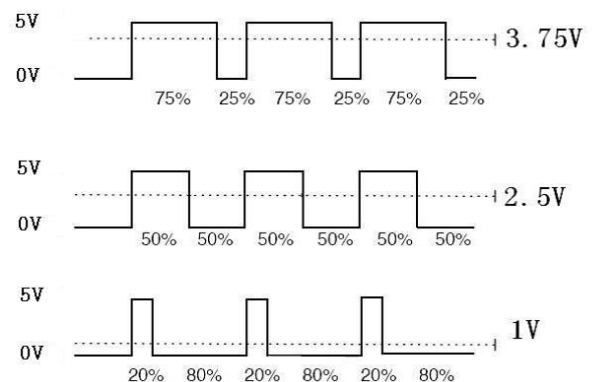

Figure 2: Duty Cycles and average value
- The 'duty cycle' describes the ratio of time the signal spends high (mark) and low (space) which creates an average constant value which lies within this range (figure 2).
- Signal time period (T) = $\frac{1}{f}$